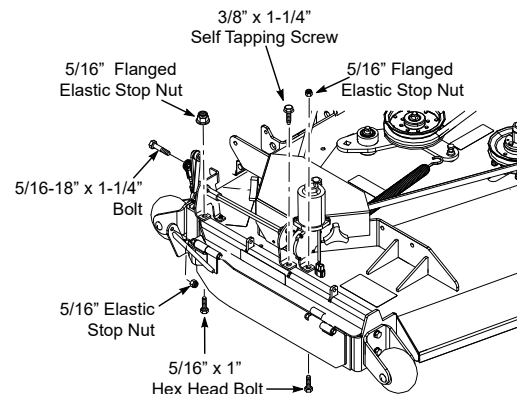

Figure 3-8.
21. Fasten the lower adjustable linkage to the block off weldment using one (1) 5/16" -18 x 1-1/4" bolt, one (1) 5/16" flat washer and one (1) 5/16" elastic stop nut. See Figure 3-8.
3. Remove the turbo baffle from the cutter deck. See Figure 3-8.